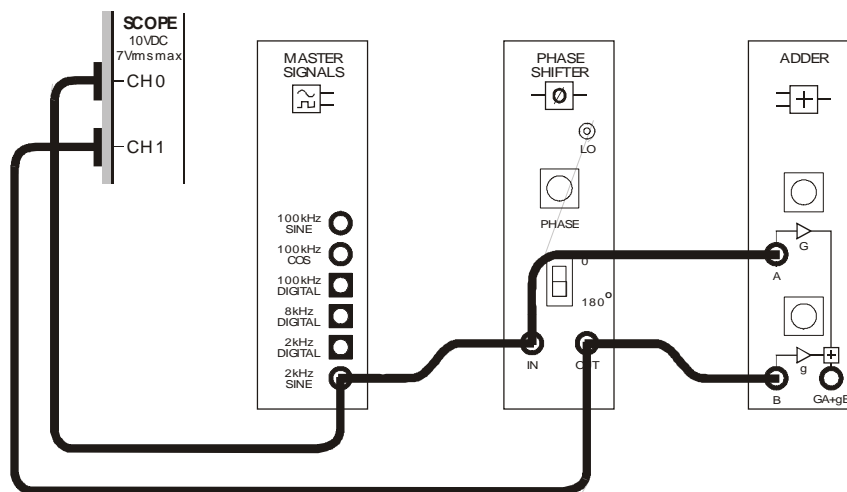

Figure 4
26. Connect the set-up shown in Figure 4 below.
The set-up shown in Figures 4 and 5 is now ready to implement the equation: